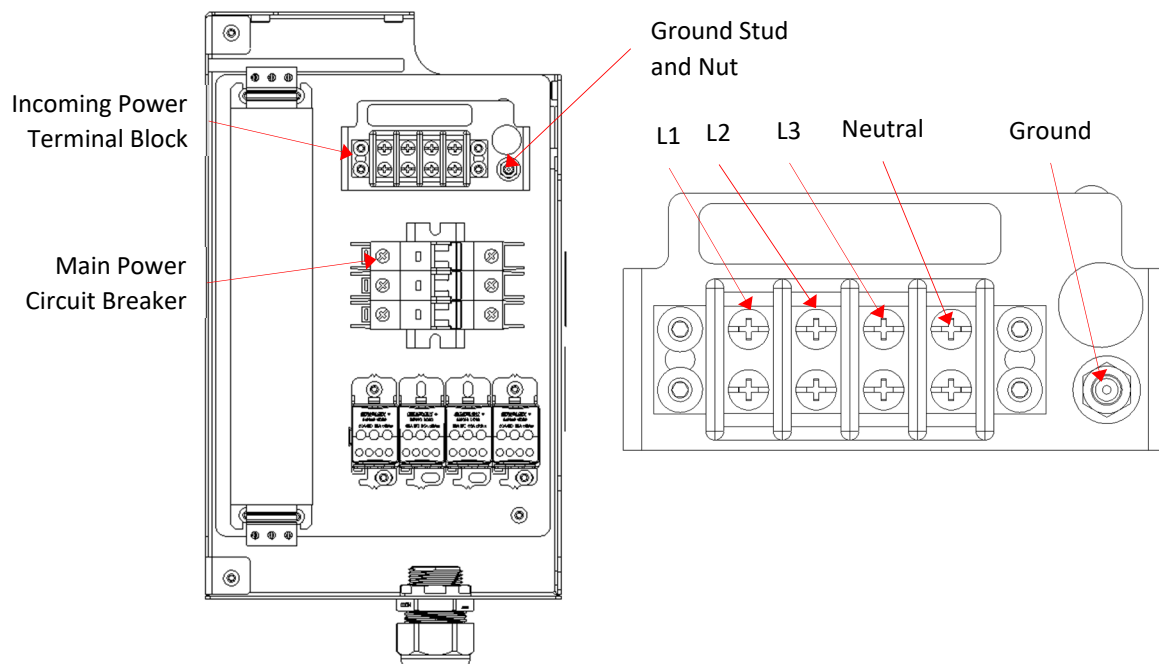

Figure 2-19: Incoming Power into Terminal Block
4. Install each individual incoming power cable wire (excluding ground) onto the upper row of the incoming power terminal block (refer to Figure 2-19)
5. Use a 10mm wrench to unfasten the top M6 Ground Nut (refer to Figure 2-19). The bottom M6 Ground Nut does not need to be uninstalled. Install the ground wire terminal over this stud. Reinstall the top Ground Nut.
6. Ensure that upstream power (at the Power Distribution Unit) has been turned off. Ensure that the Main Power Circuit Breaker is turned on (indicator will be red, refer to Figure 2-19).